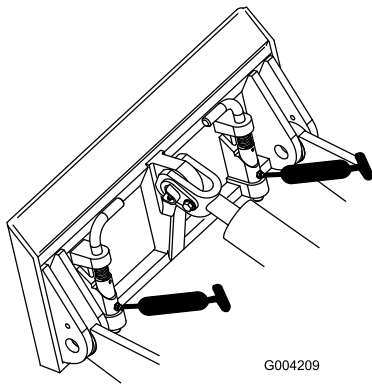

Figure 21
4. Connect a grease gun to each fitting (Figure 20 and Figure 21).